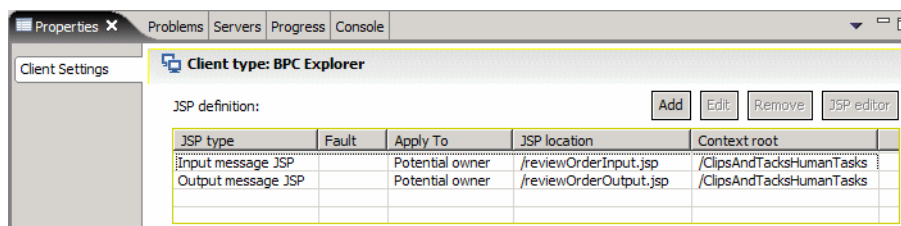

Figure 9-42 Human task JSPs for reviewing the order
- ▶ The list of JSPs for the Review Order activity is shown in Figure 9-42.